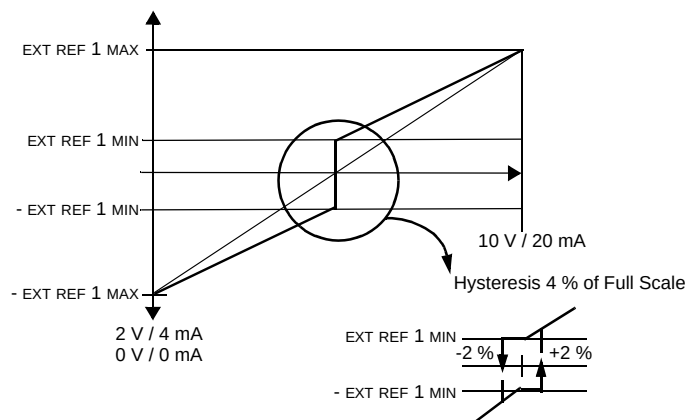

FIG. 24 - Joystick control. Maximum for external reference 1 is set with Parameter 1105 and minimum with Parameter 1104.
1103	Ext ref1 select This parameter selects the signal source of external reference 1. 0 = KEYPAD Reference is given from the control panel. 1 = AI 1 Reference is given through analog input 1. 2 = AI 2 Reference is given through analog input 2. 3 = AI1/JOYST; 4 = AI2/JOYST Reference is given through analog input 1 (or 2 accordingly) configured for a joystick. The minimum input signal runs the drive at maximum reference in the reverse direction. The maximum input signal runs the drive at maximum reference in the forward direction (See Figure 24). See also parameter 1003 DIRECTION.  Minimum reference for joystick should be 0.3 V (0.6 mA) or higher. If a 0 ... 10 V signal is used, the AYK 400 will operate at maximum reference in the reverse direction if the control signal is lost. Set parameter 1301 MINIMUM AI1 to a value 3 % (corresponding 0.3 V) or higher, and parameter 3001 AI<MIN FUNCTION to 1 (FAULT), and the AYK 400 will stop in case the control signal is lost.